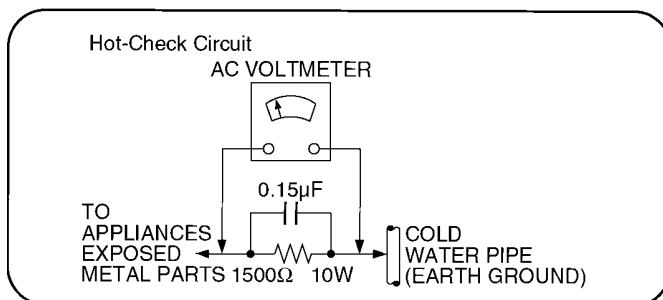

Figure 1
1.1.2. Leakage current hot check (See Figure 1.)